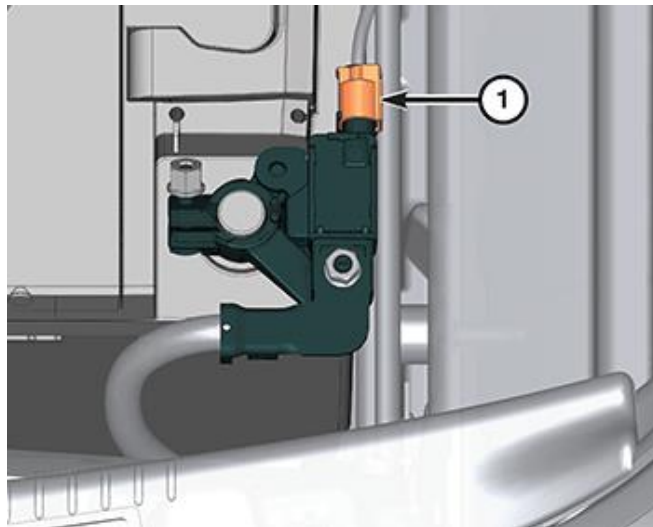

Figure 2 – IBS Electrical Connector
4. Disconnect the Intelligent Battery Sensor (IBS) electrical connector (1) (Figure 2).
28. Install the electrical connector (1) to the IBS. Make sure there is no stress on the wires (Figure 2).